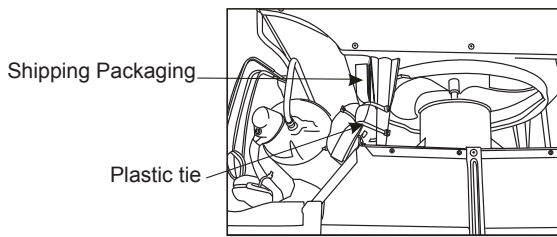

Fig.7
10. Your unit may come with internal packaging. This packaging must be removed prior to installing the air conditioner back into the cabinet.(see Fig.7).